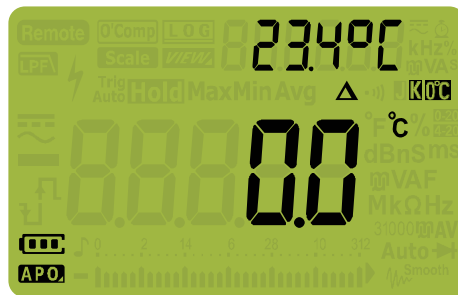

Figure 2-29 Temperature measurement without ambient compensation
- 1 To measure temperature, position the rotary switch to $\rightarrow \text{K}$ and press  once. Set up your multimeter as shown in Figure 2-29.